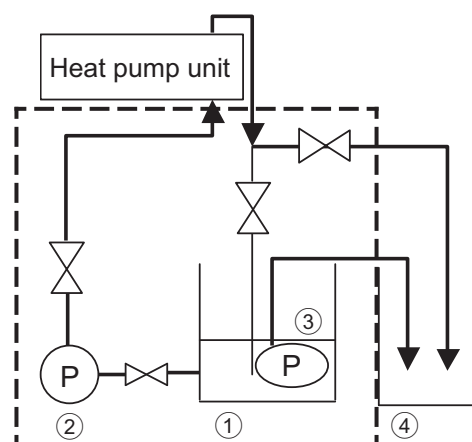
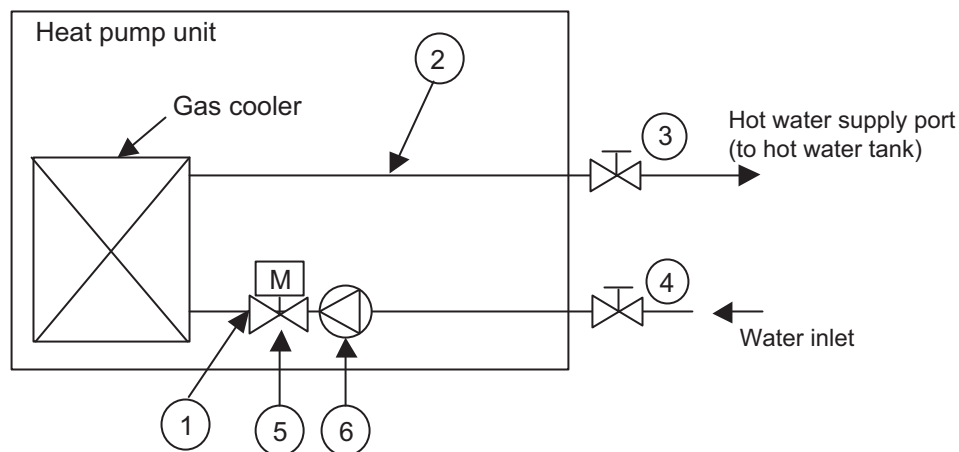

Figure 1 Cleaning device (inside the dashed lines)
Figure 2: Valves to be closed and connections of cleaning water circuit
| 7 | <p>Calculate the amount of refrigerant oil that flows out of the compressor (inside the QAHV unit) by weighing the compressor so that the total amount of the refrigerant oil in the unit will be 2.7 kg (= 2.7 ʟ). To adjust the oil level, follow the steps (1) through (5) below.</p> <p>Necessary tools</p> <ul style="list-style-type: none"> • A scale • Rubber plugs (Use the rubber plugs attached to the replacement compressor.) <p>Note</p> <ul style="list-style-type: none"> • Tolerance of the amount of extracted oil should be within ± 0.1 kg (± 0.2 lbs). <div style="display: flex; justify-content: space-around; align-items: flex-end;"> <div style="text-align: center;">  <p>Figure 1. Where to cut the oil-return pipe</p> </div> <div style="text-align: center;">  <p>Figure 2. Components to be weighed</p> </div> </div> <p>[Steps]</p> <p>Measuring the weight of the service parts compressor: Weight measurement value A</p> <p>(1) Weigh the compressor as shown in Fig. 2.</p> <ul style="list-style-type: none"> • Reference weight of service parts compressor is 65.1 kg (143.5 lbs). <p>Measuring the weight of the removed compressor: Weight measurement value B</p> <p>Weigh the compressor under the following conditions.</p> <p>(2) Cut the oil-separator pipe of the oil separator as shown in Fig. 1, and include the oil flowing out from the oil circuit in the weight measurement value A. (Receive the oil in a container, and return it to the compressor from the suction pipe.)</p> <ul style="list-style-type: none"> • Include the components shown in Fig. 2 (remove the cut oil-separator pipe by heating) and the rubber plugs for discharge, suction, oil-separator, and injection pipes (use the rubber plugs for replacement compressors) in the measurement. • Include the compressor terminal cover in the weight measurement. <p>Calculating the outflowing refrigerant oil from the replaced compressor (remaining in QAHV): Calculated refrigerant oil outflow C</p> <p>Calculated refrigerant oil outflow from the compressor (remaining in QAHV unit) C = Weight measurement value A + 0.4 kg (0.9 lbs) - Weight measurement value B</p> <p>Ex) When the weight measurement value A is 65.1 kg (143.5 lbs) and the weight measurement value B is 64.1 kg (141.3 lbs), Calculated refrigerant oil outflow C = 65.1 kg (143.5 lbs) + 0.4 kg (0.9 lbs) - 64.1 kg (141.3 lbs) = 1.4 kg (3.1 lbs)</p> <p>Calculating the refrigerant oil to be drained from the replacement compressor: Refrigerant oil drainage amount D</p> <p>Refrigerant oil drainage amount D = Calculated refrigerant oil outflow from the compressor (remaining in QAHV) C - 0.7 kg (1.55 lbs)</p> <p>Note 1 and Note 2</p> <p>Ex) When the result of outflow refrigerant oil C is 1.4 kg (3.1 lbs), Refrigerant oil drainage amount D = 1.4 kg (3.1 lbs) - 0.7 kg (0.9 lbs) = 0.7 kg (1.55 lbs) Therefore, drain 0.7 kg (1.55 lbs) of refrigerant oil from the replacement compressor.</p> <p>(4) Note 1: "-0.7" (1.55) in the equation above is a value that corrects the amount of refrigerant oil charged to the compressor at the time of shipment and the amount of refrigerant oil charged to the replacement compressor.</p> <p>Note 2: Due to the structure of the compressor, a minimum of 1 kg (2.2 lbs) of oil will remain in any failed compressor (the amount of outflow of the oil is always 1.4 kg (3.1 lbs) or less). If the calculation result of the refrigerant oil drainage amount C is greater than 0.7 kg (1.55 lbs), the weight measurement is incorrect. Drain 0.7 kg (1.55 lbs) of refrigerant oil from the compressor. If the calculation result of the refrigerant oil drainage amount C is 0.7 kg (1.55 lbs) or less, drain that amount.</p> <p>Adjusting the refrigerant oil of the replacement compressor</p> <p>(5) When draining the refrigerant oil from the compressor and adjusting the oil level, slowly tilt the compressor with the suction pipe facing down to drain the refrigerant oil from the suction pipe.</p> |
Items to prepare (Inside the dashed lines in Figure 1 is the cleaning device.)
Figure 2 symbol explanation
Cleaning water circuit is connected to the unit at the hot water supply port on the back of Heat pump unit ① and at the gas cooler inlet in the front of the Heat pump unit ② as shown in Figure 2.
Cleaning solution flows through the pipe indicated as ②, gas cooler, and then the pipe indicated as ① in Figure 2.